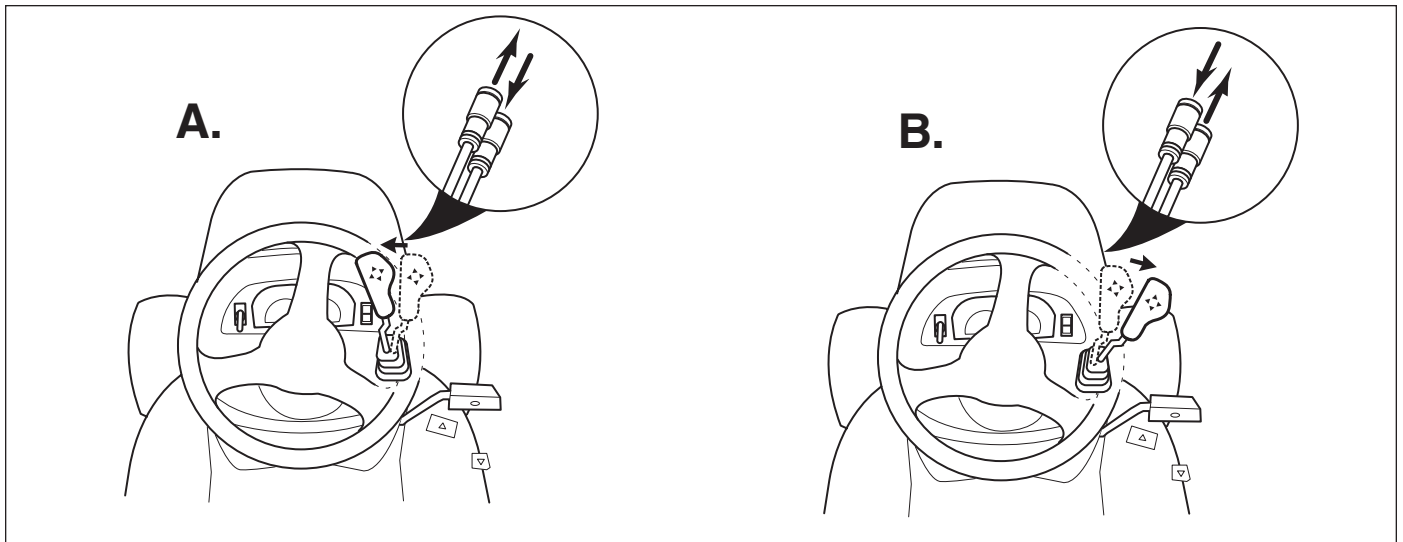

Figure 7. Auxiliary Hydraulics
Moving the control lever to the left (A, Figure 7) angles the attachment left. Moving the lever right (B) angles the attachment right.